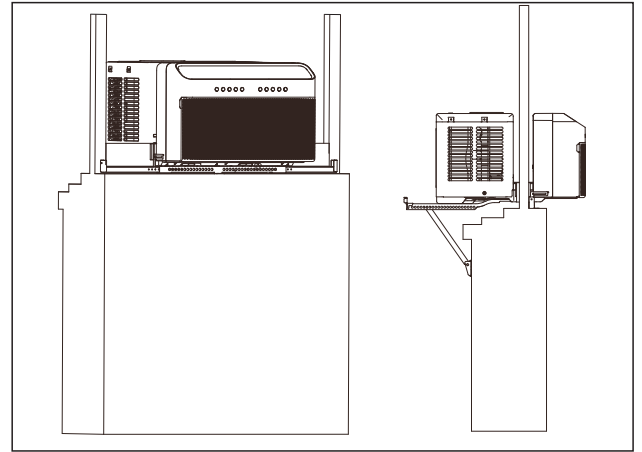

Fig.5
A. Place the AC unit on support bracket: Align the window to the grooved part of the unit. See Fig.5